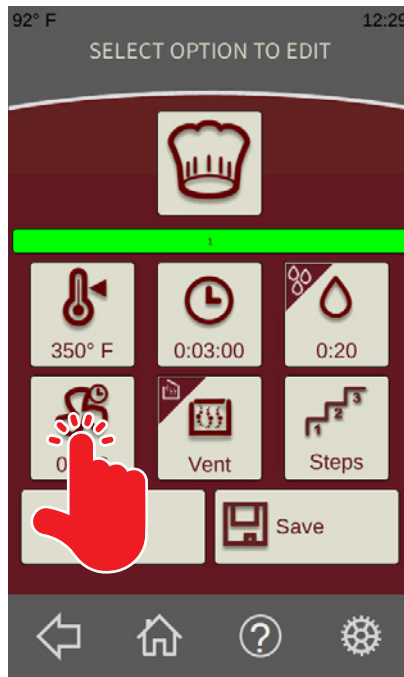

Fig. 21
- From the **Standard Recipe Run Screen** (Fig. 21), touch the fan delay button. The **Fan Delay Time Screen** should be displayed.